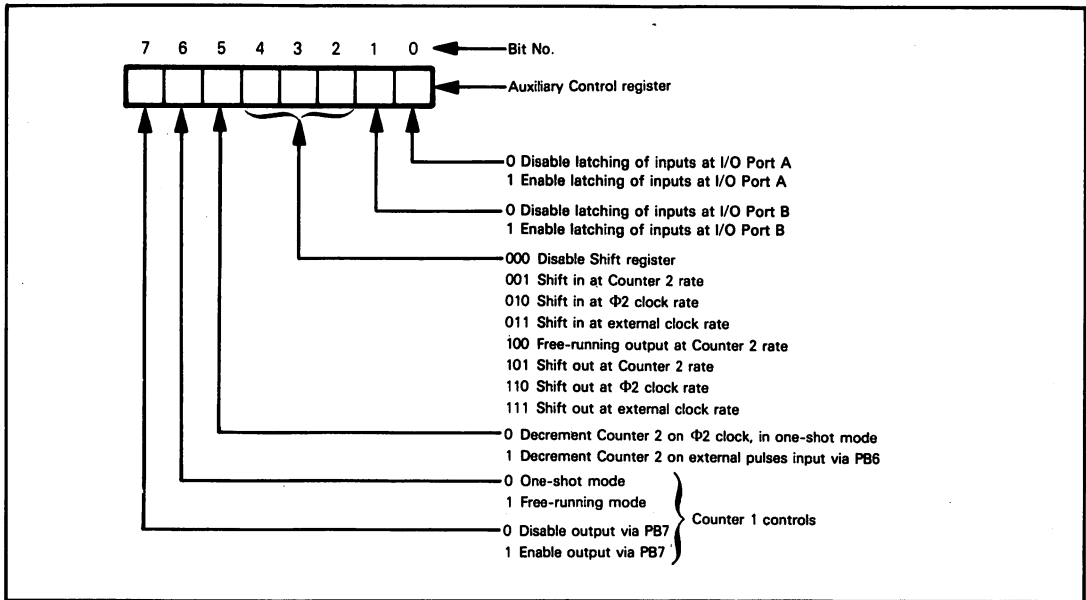

Figure 10-14. Auxiliary Control Register Bit Assignments
I/O input latches will reflect the signal level of every I/O Port A pin, whether it has been assigned to input or output. You have the option of enabling or disabling the input latching function for I/O Port A using bit 0 of the Auxiliary Control register. The bit assignments for the Auxiliary Control register are illustrated in Figure 10-14 and this register is addressed as select code 1011 or location DEV+B. Writing a one into bit 0 of the Auxiliary Control register enables the input latching function for Port A and a 0 disables the latching function. If input latching is disabled then the data that is on the Port A I/O pins is always the data that will be presented to the CPU. With these input latches disabled, this I/O port operates the same as the 6820 PIA which has no input latches. When the latching function is enabled, then the data will be latched by an active transition on CA1. Note that 'active transition' is defined by bit 0 of the Peripheral Control register.
**Referring to Figure 10-14, "One-Shot Mode" refers to disconnected Latch and Counter logic, while "Free Running Mode" refers to connected Latch and Counter logic.**